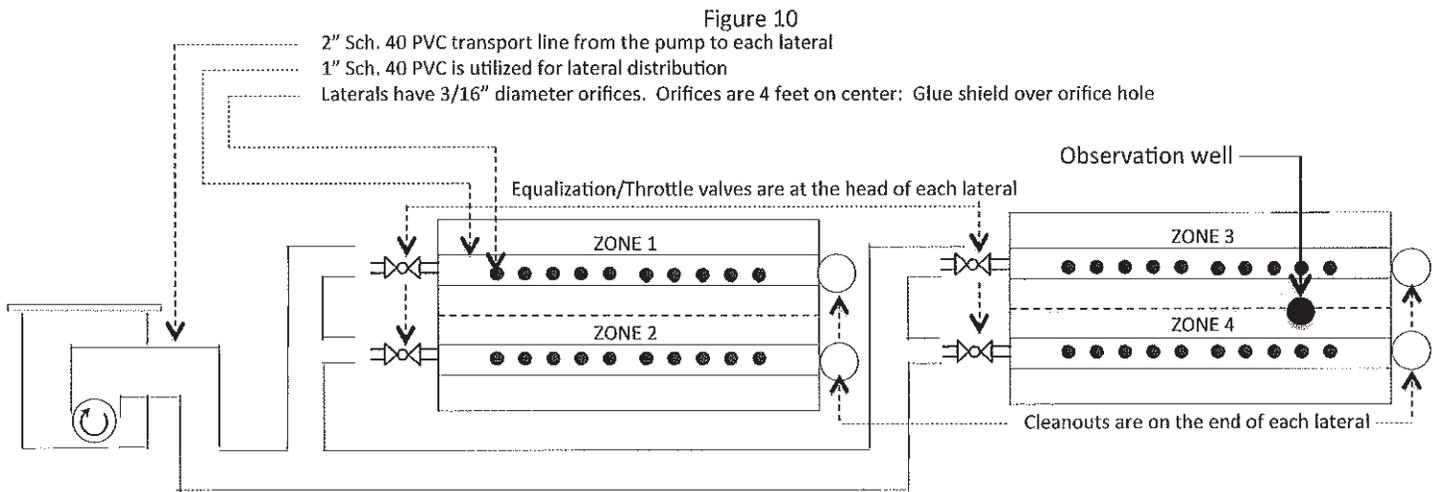

Figure 11
3. Roll out GeoMat 3900 and cut for each zone. (Figure 11)